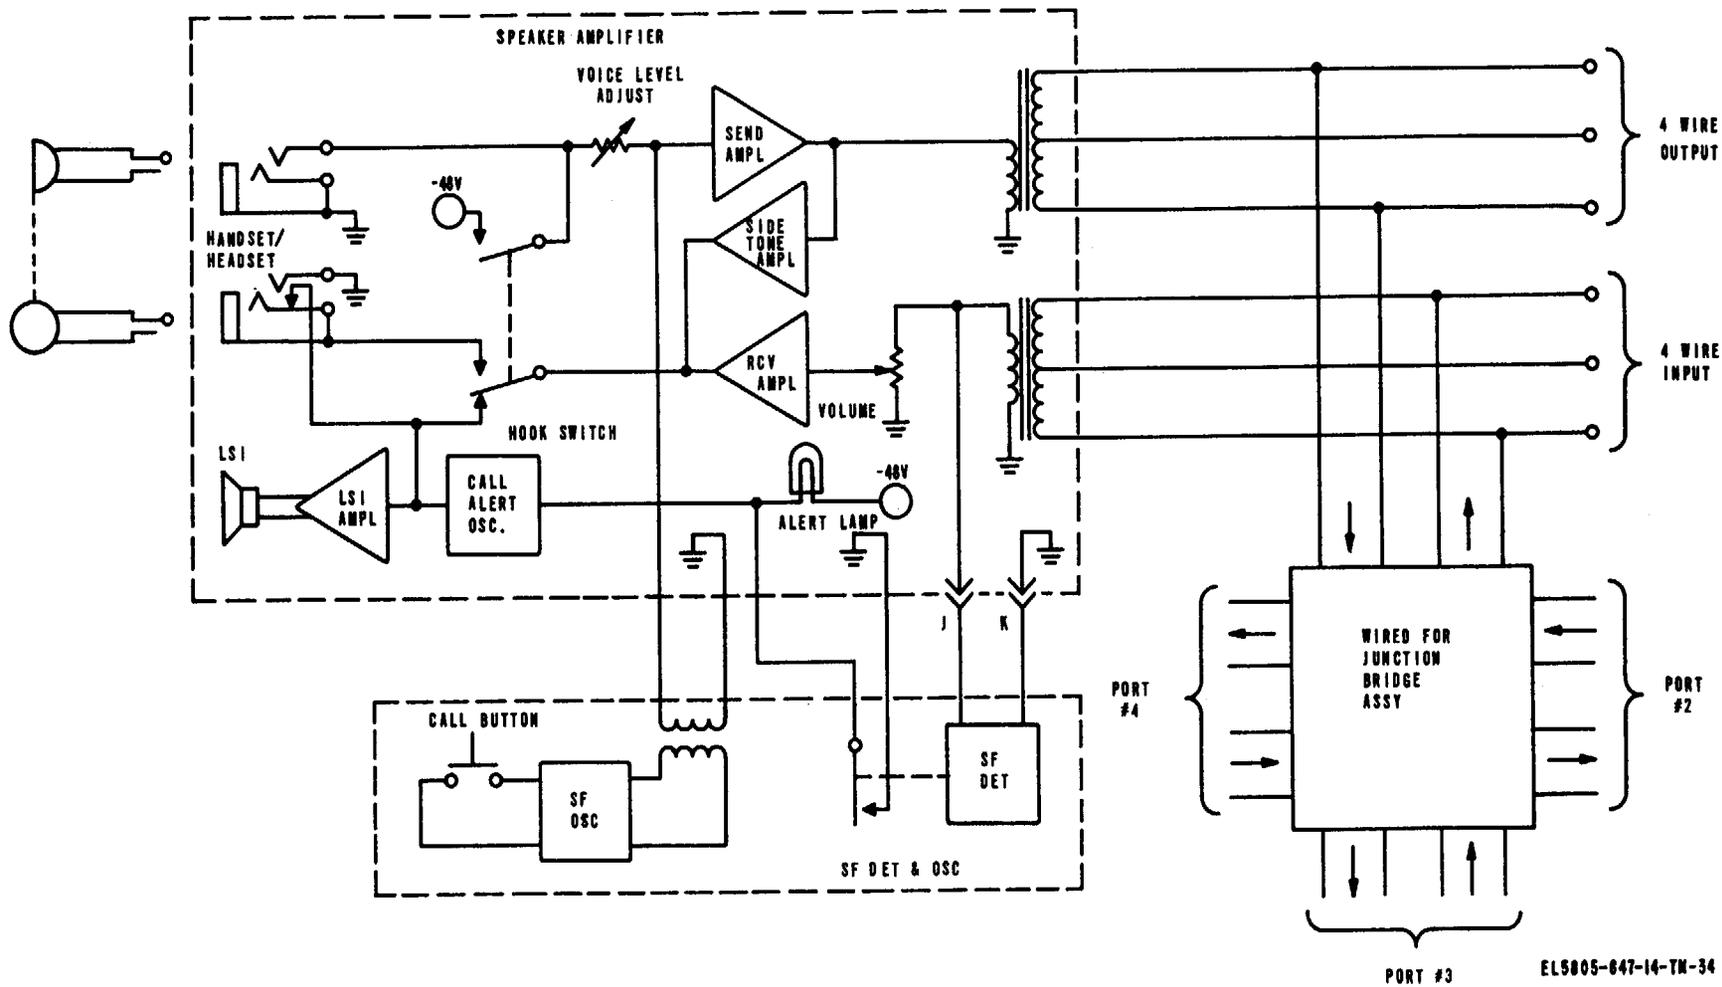

Figure 4-4. Local Orderwire Unit 41010-97, functional block diagram.
(1) *Receive circuitry.* On an incoming call, a 80- to 120-vac 20-Hz ringing voltage from the central office is impressed on the 2-wire line and is detected by the line card circuitry to cause K1 to operate. This completes the path for interrupted audible (RN) and visual (LF) signals from the interrupter to the operator's unit causing the line lamp to flash and the audible alarm to sound. When the local operator goes off-hook, line card relay K2 is energized by the A lead, and K1 will deenergize, again breaking the path from RN and LF interrupter buses. With K2 operated, a --48 vdc voltage is applied from contacts 1 and 2 of the conference relay to the L (lamp lead) and provides the steady off-hook lamp busy indication. Receive speech signals are applied to the operator's access unit on the T&R leads.
d. *Local Orderwire Unit, 41010-97* (fig. 4-4).